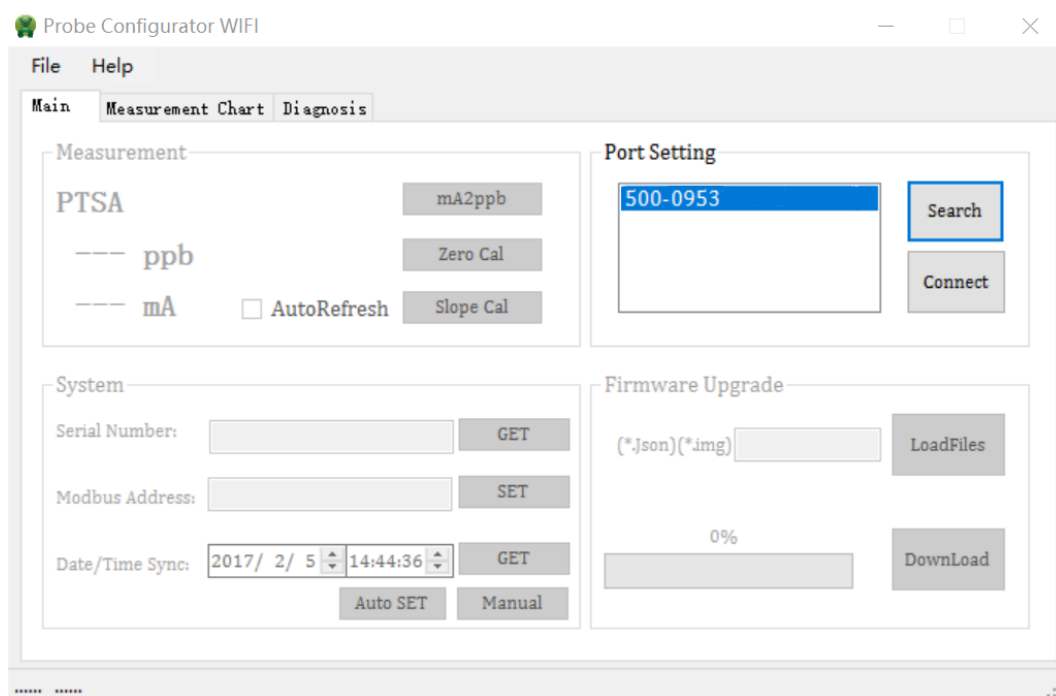

Figure 6. Connected via WiFi Adapter
5. Click the search button to locate the hotspot and then connect the Connect button as shown by Fig 6